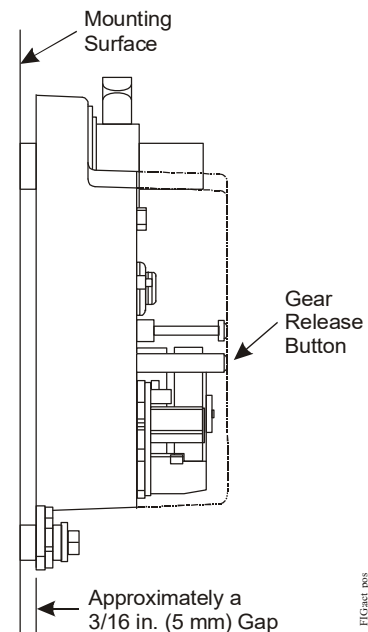

Figure 5: Positioning the actuator
6. Be certain that the actuator is in the desired mounting position parallel to the mounting surface, as illustrated in Figure 5.